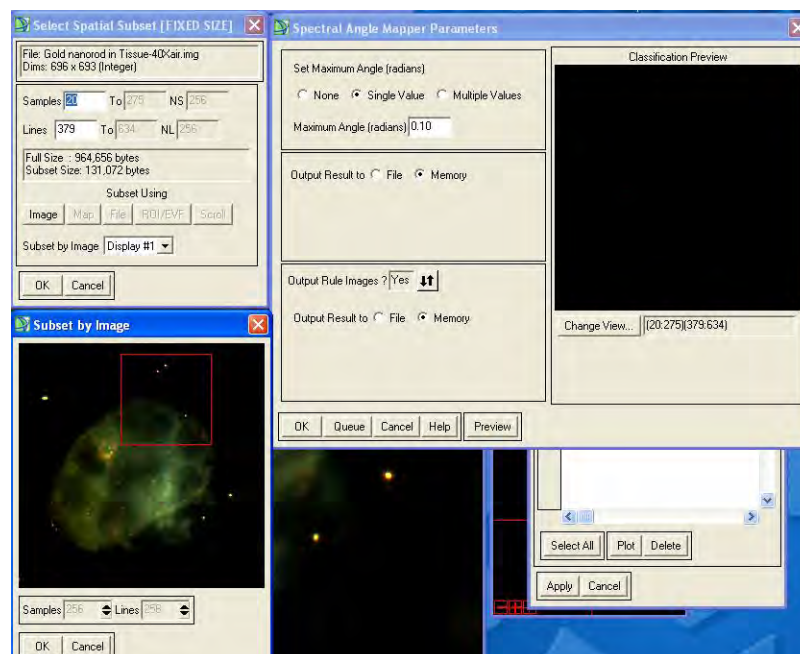

Figure 16. Spectral Angle Mapper Parameters box, Select Spatial Subset box, Subset by Image
22. Move the red square to the desired area (see Figure 16)